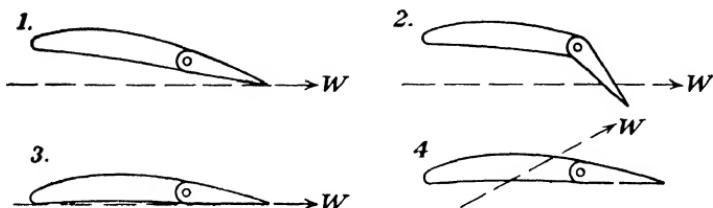

Fig. 112.
- 1-4.** Estimate the angle of attack of the airfoils in Fig. 112.
5. What wind condition might cause a situation like the one shown in Example 4 Fig. 112?